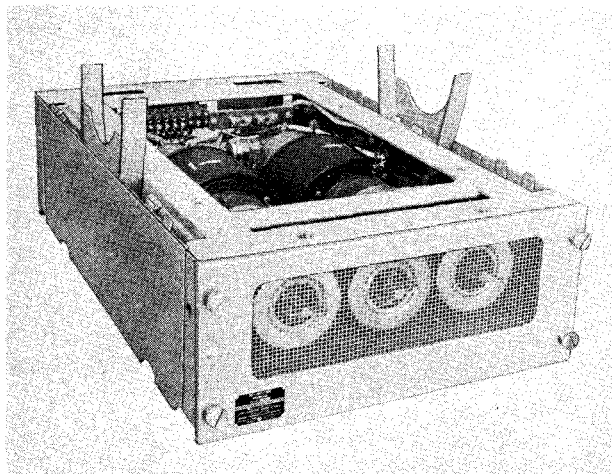

Figure 1-12. Mounting MT-1423/SRT,
c. MOUNTING MT-1423/SRT (MOUNTING). (See figure 1-12.)—The mounting supports the transmitter stack, provides forced ventilation, and is the cable entrance point for the transmitter bay.